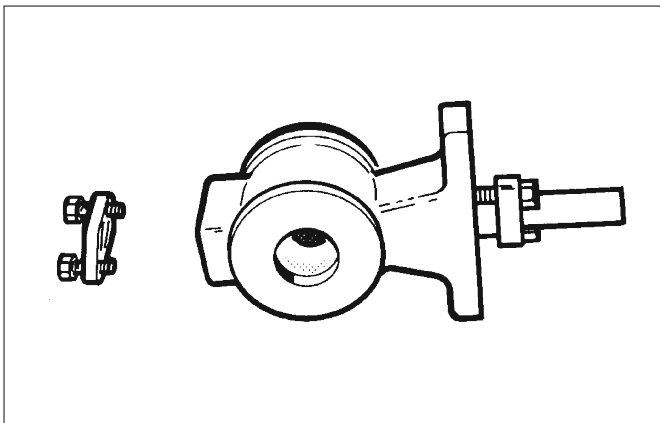

Fig. 12 Removing the blind flange
- ❑ In DN 25-40 valves (excluding the low-Cv versions), unfasten the flange (10) and push the segment into the back position (Fig. 12).